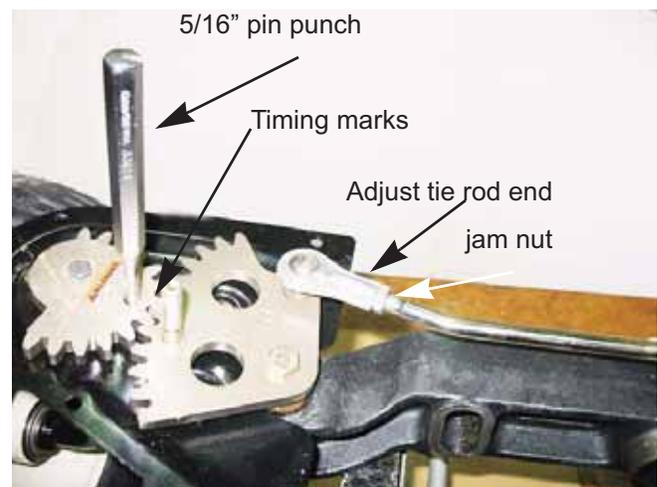

Figure 6B.94
**NOTE:** Make sure they go all the way through into the pivot bar to lock the gears in position. See Figure 6B.94.
19. Adjust the tie rod ends by loosening the jam nuts and rotating the tie rod ends until they slide on to the 1/4" bolts sticking up through the inboard steering gears. Tighten the jam nuts to lock the tie rod ends in place. See Figure 6B.94.